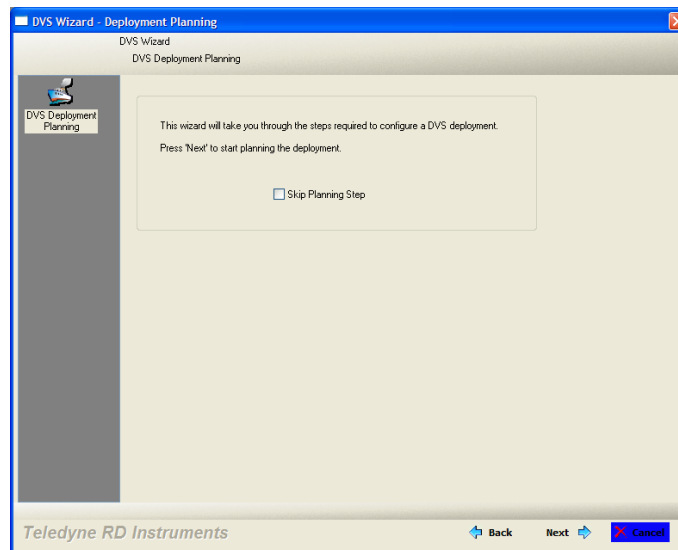

Figure 6. DVS Wizard - Deployment Planning
- d. The first step is planning. If you want to skip this step, check the **Skip Planning Step** box (see Figure 6), or click **Next** to continue.